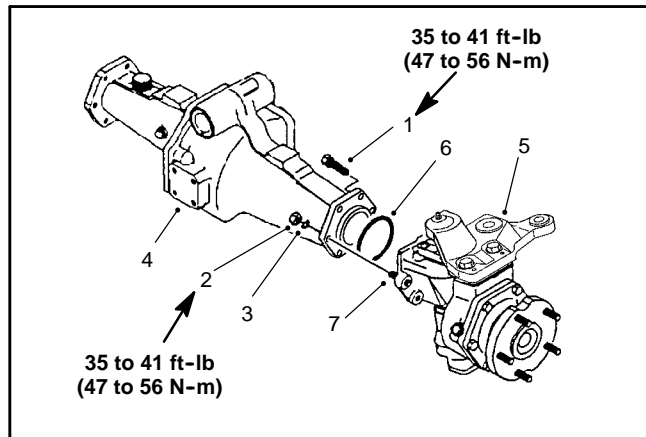

Figure 27
1. Remove the mounting screws, nuts and lock washers. Remove the bevel gear case/axle case assembly and O-ring from the axle support (Fig. 27).